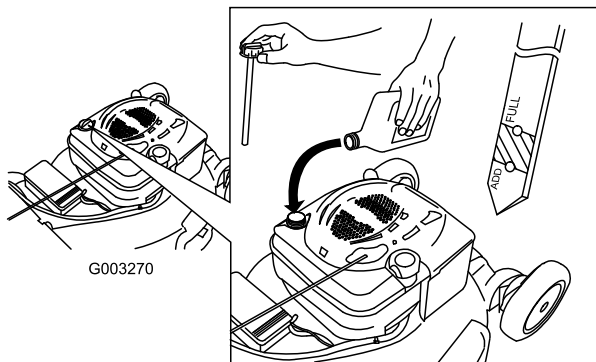

Figure 6
1. Remove the dipstick (Figure 6).
2. **Slowly** pour oil into the oil fill tube until the oil level reaches the Full line on the dipstick (Figure 6). Wait 3 minutes after adding oil to check the oil level with the dipstick. **Do not overfill.** (Max. fill: 20 oz. (0.59 l), type: SAE 30 detergent oil with an API service classification of SF, SG, SH, SJ, SL, or higher.)